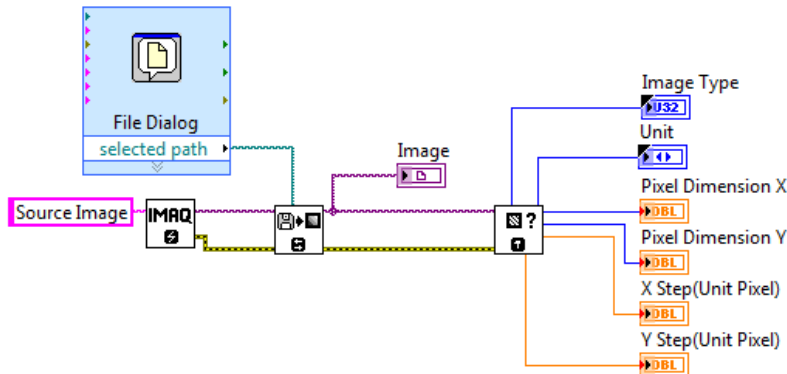

Figure 5: Block Diagram of Exercise 1
3. For the **Block Diagram**, wire all the controls and indicators as illustrated in Figure 5 by executing the following steps.